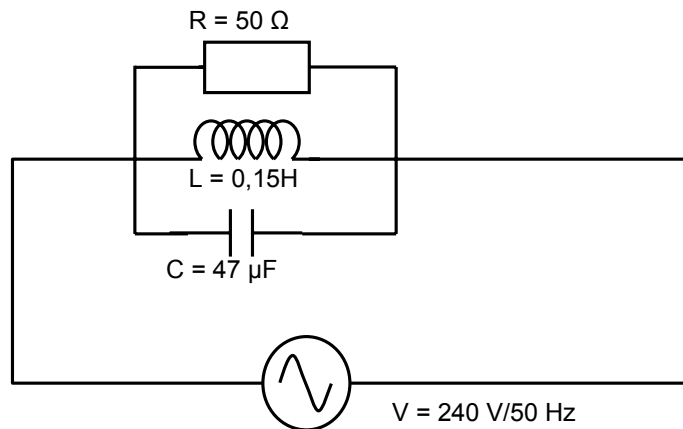

FIGURE 5.2 – RLC PARALLEL CIRCUIT
5.2 A RLC parallel circuit is connected as shown in FIGURE 5.2.
5.3 Draw a neatly labelled phasor diagram representing the circuit in FIGURE 5.2. (7)